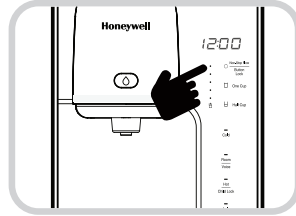

Fig. 9
1. Press the Non-Stop Flow/Buttons Lock button for three (3) seconds in the Waiting Status to select the Button Lock. The Voice Guide will say "selecting button lock" "button lock selected" (Fig. 9).